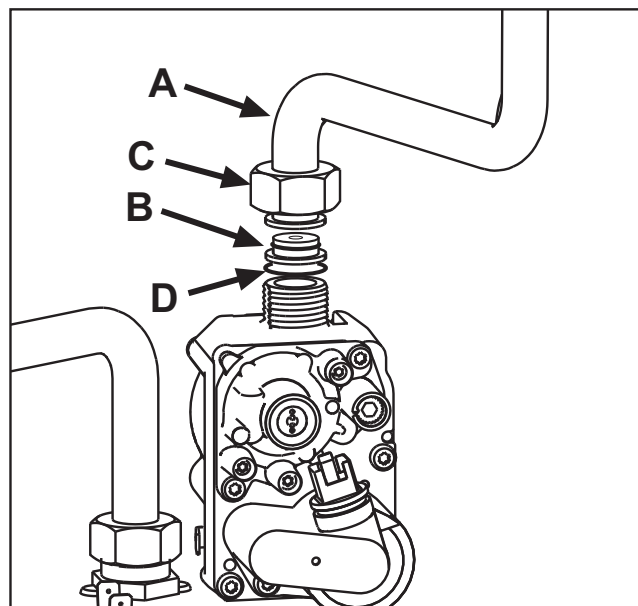

fig. 22
3. Unscrew ring C and remove gas pipe A from the gas valve (see fig. 22).
4. Replace nozzle B, inserted in the gas pipe, with that contained in the conversion kit, interposing seal D (see fig. 22).